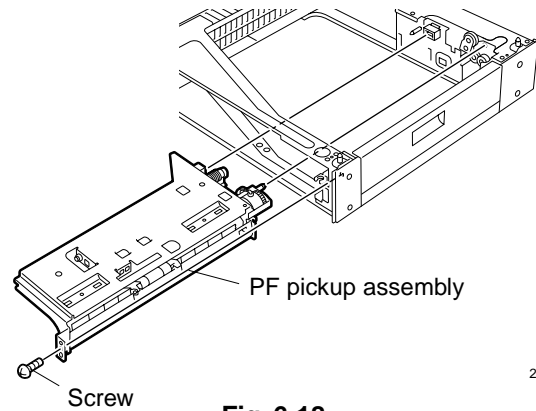

Fig. 6-18
2. Remove PF pickup assembly. (See Fig. 6-18)